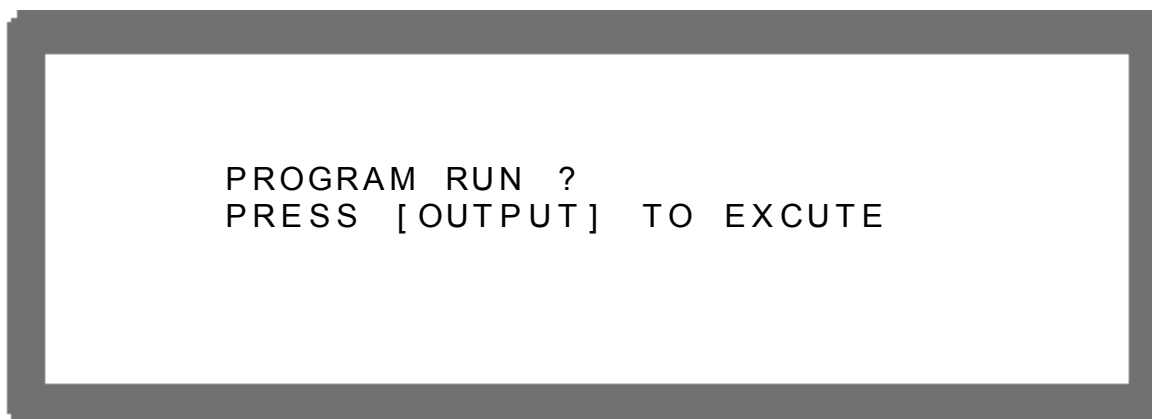

Figure 4-15
1. Press “” will prompt a confirmation page as Figure 4-15 shows.
1. Press **OUTPUT** in Program page (Figure 4-3) or Sequence page (Figure 4-8) will prompt a confirmation page as Figure 4-15 shows.
1. Press will appear a confirmation window as Figure 4-15 shows.